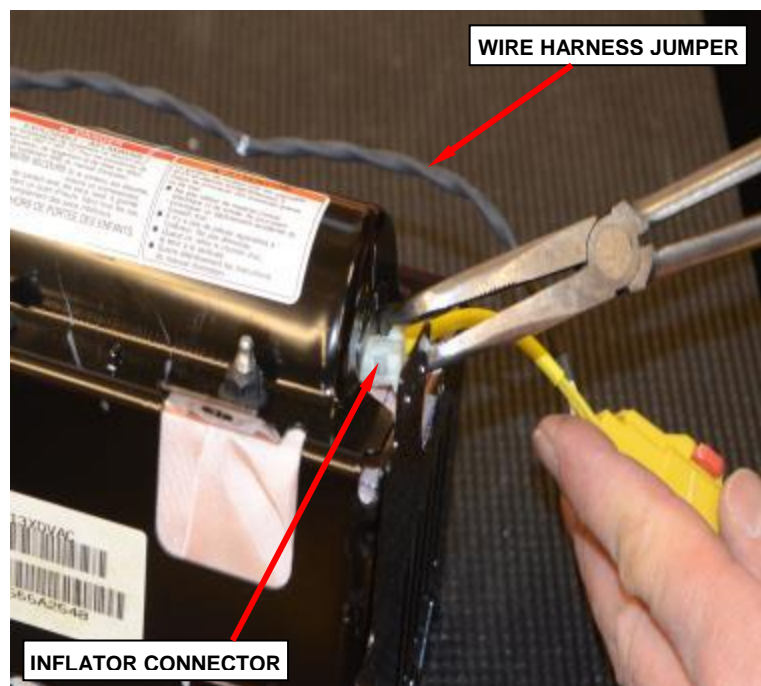

Figure 21 – Inflator Connector
- e. Disconnect the second inflator connector from the end of the inflator using pliers (Figure 21).
- f. Remove and discard the wire harness jumper (Figure 21).